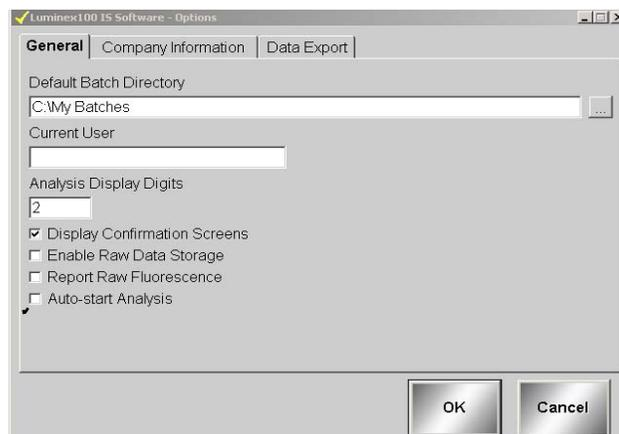

Figure 53 Options Dialog Box—Select Auto-start Analysis
1. On the **Tools** menu, click **Options**, then click on the **General** tab. See Figure 53.